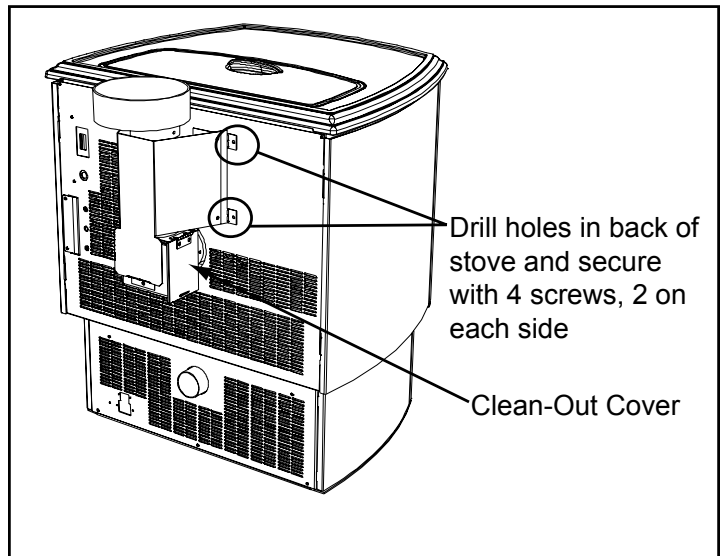

Figure 18.2
3. Drill 4 holes with #26 drill bit (provided) into the back of the appliance using the outer shield as a pattern (make sure the assembly is vertical). **Figure 18.2**
7. To clean the top vent adapter open the clean-out cover. **Figure 18.2.**